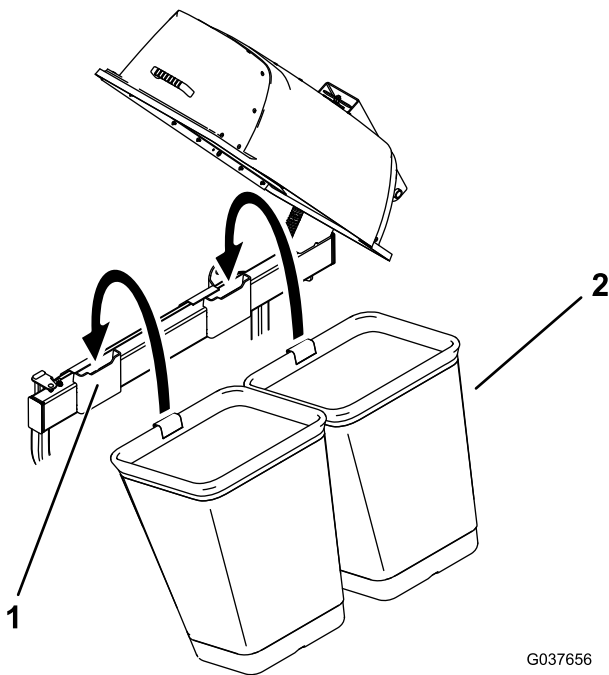

Figure 20
4. Install the bags onto bag mounts (Figure 20).